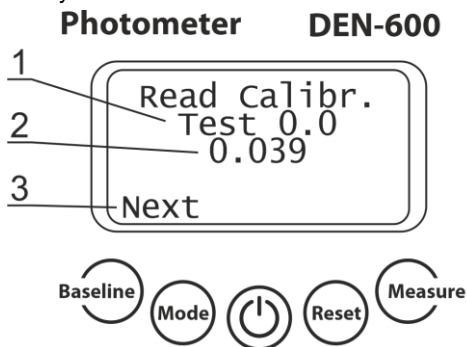

Figure 4. Saved user calibration data
- 5.7 **Saved user calibration data observation (Figure 4).** Press **Mode** key in user calibration regime, then press Next (**Baseline** key) to observe calibrated points and Abs result equivalent to McF in user calibration.